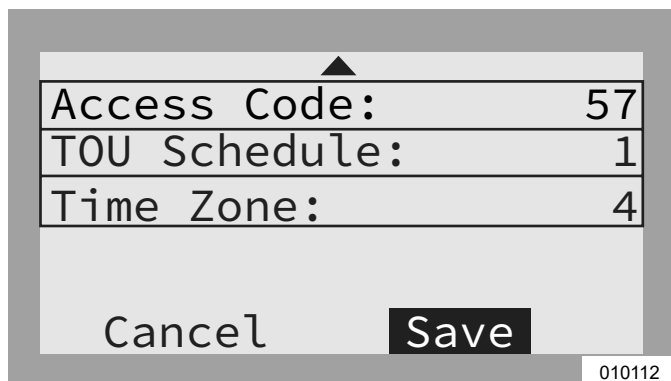

Figure 6-17. Configuring TOU Schedule (4 of 4)
8. See **Figure 6-17**. To commit changes to all entries, highlight Save and press the center button.